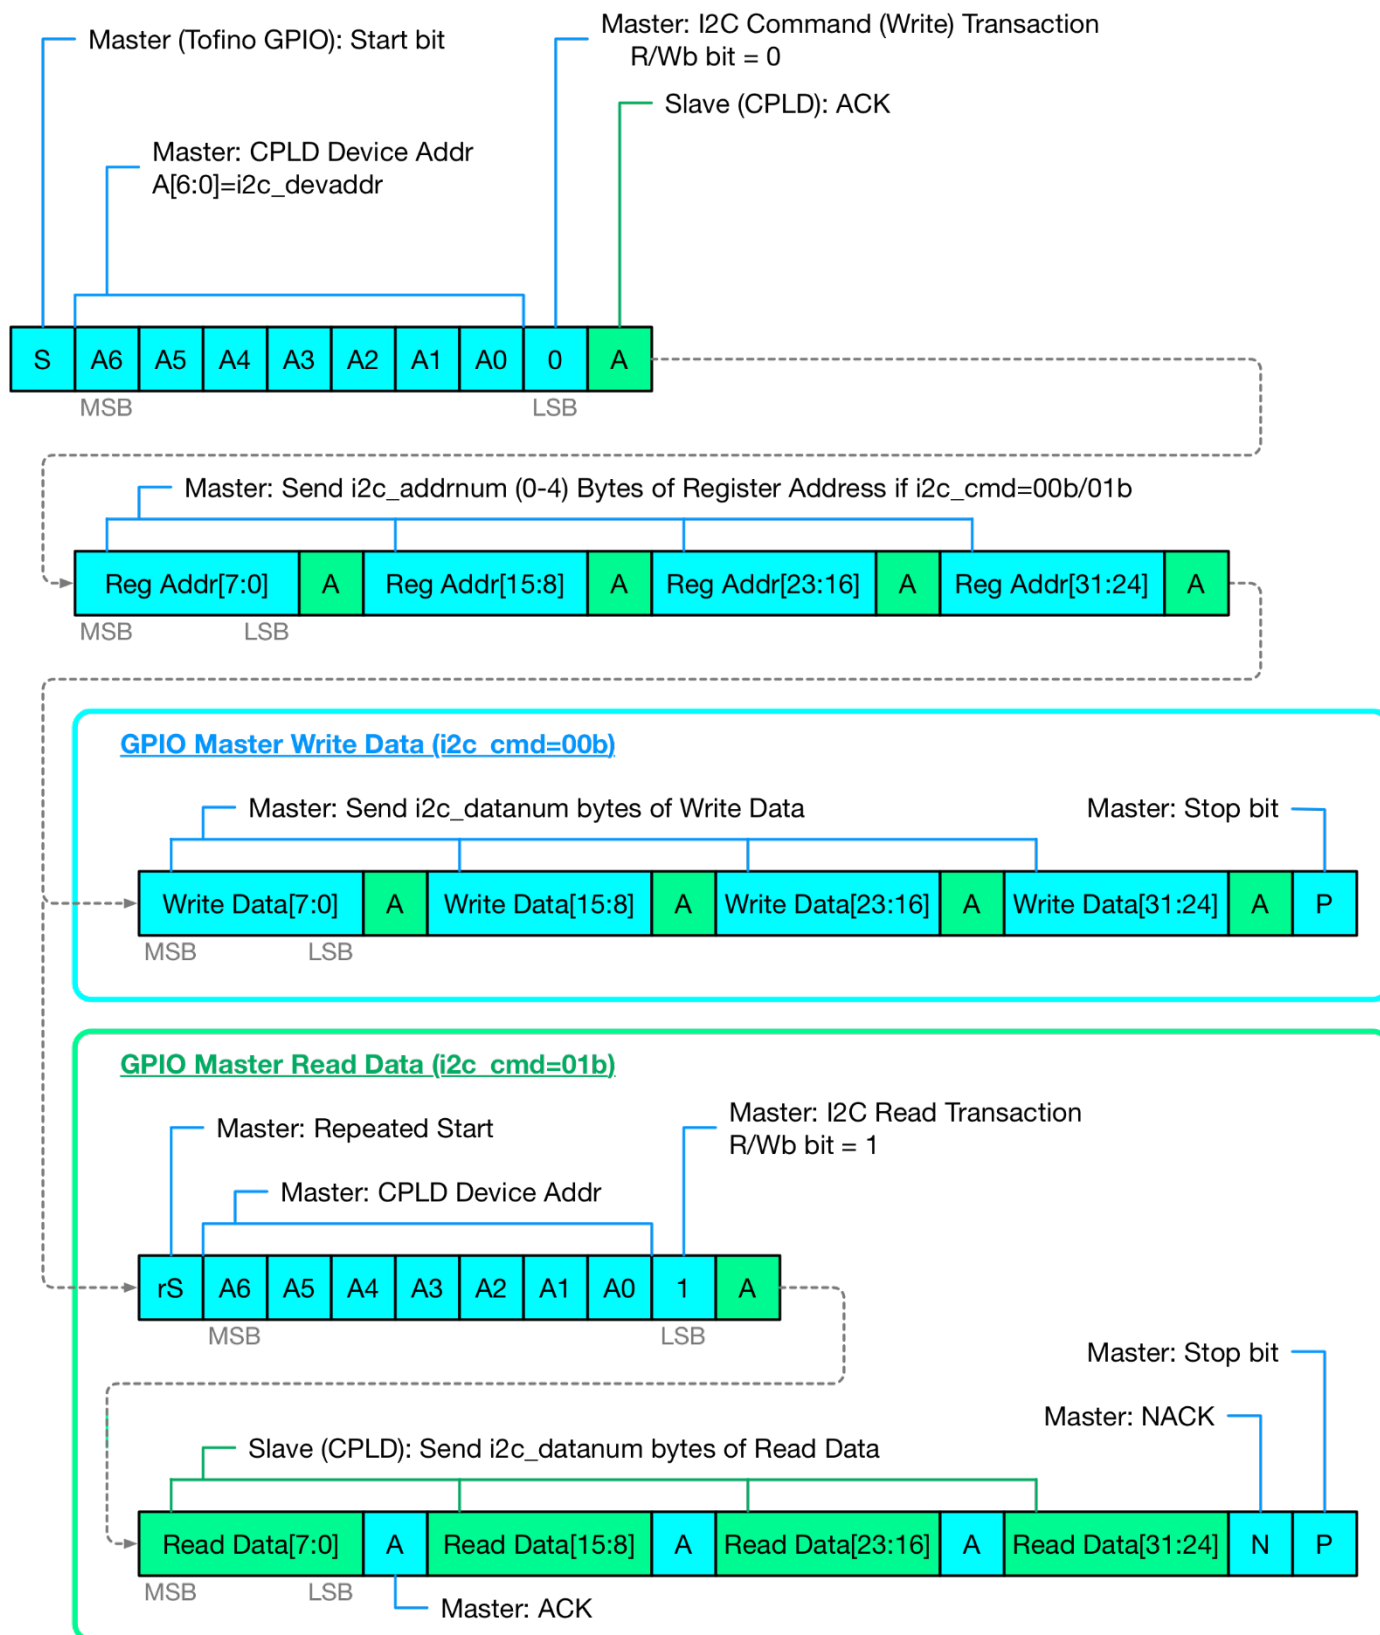

Figure 3: Slave I2C 32b Configuration Register Transaction
- I²C CPLD register address (labeled as “CPLD Device Addr” in Figure 3): `i2c_addr.i2c_addr`